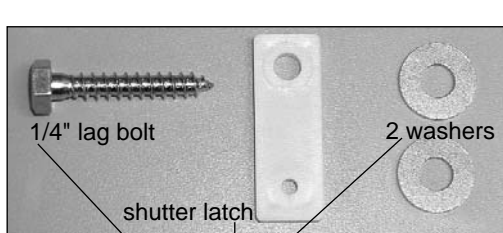

Figure 1
Note - Be sure to use two (2) washers for each shutter latch (see Figure 1).